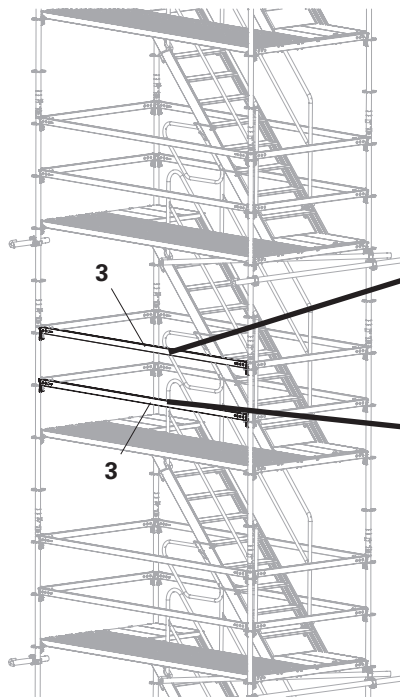
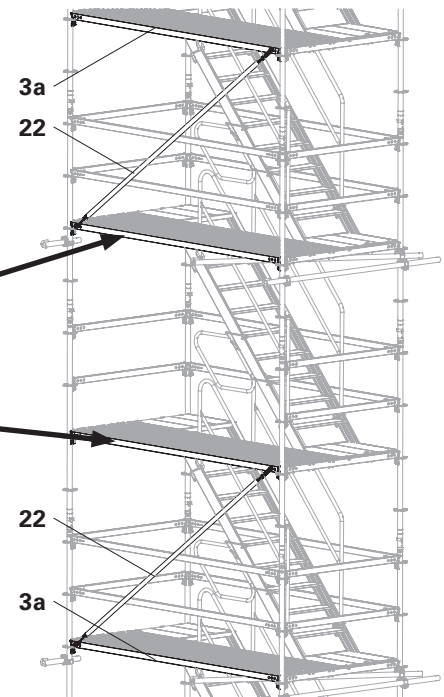

Fig. A6.01
Fig. A6.02
- Fit additional horizontal ledgers (**3a**) onto the floors above and below. (Fig. A6.01 + Fig. A6.02)